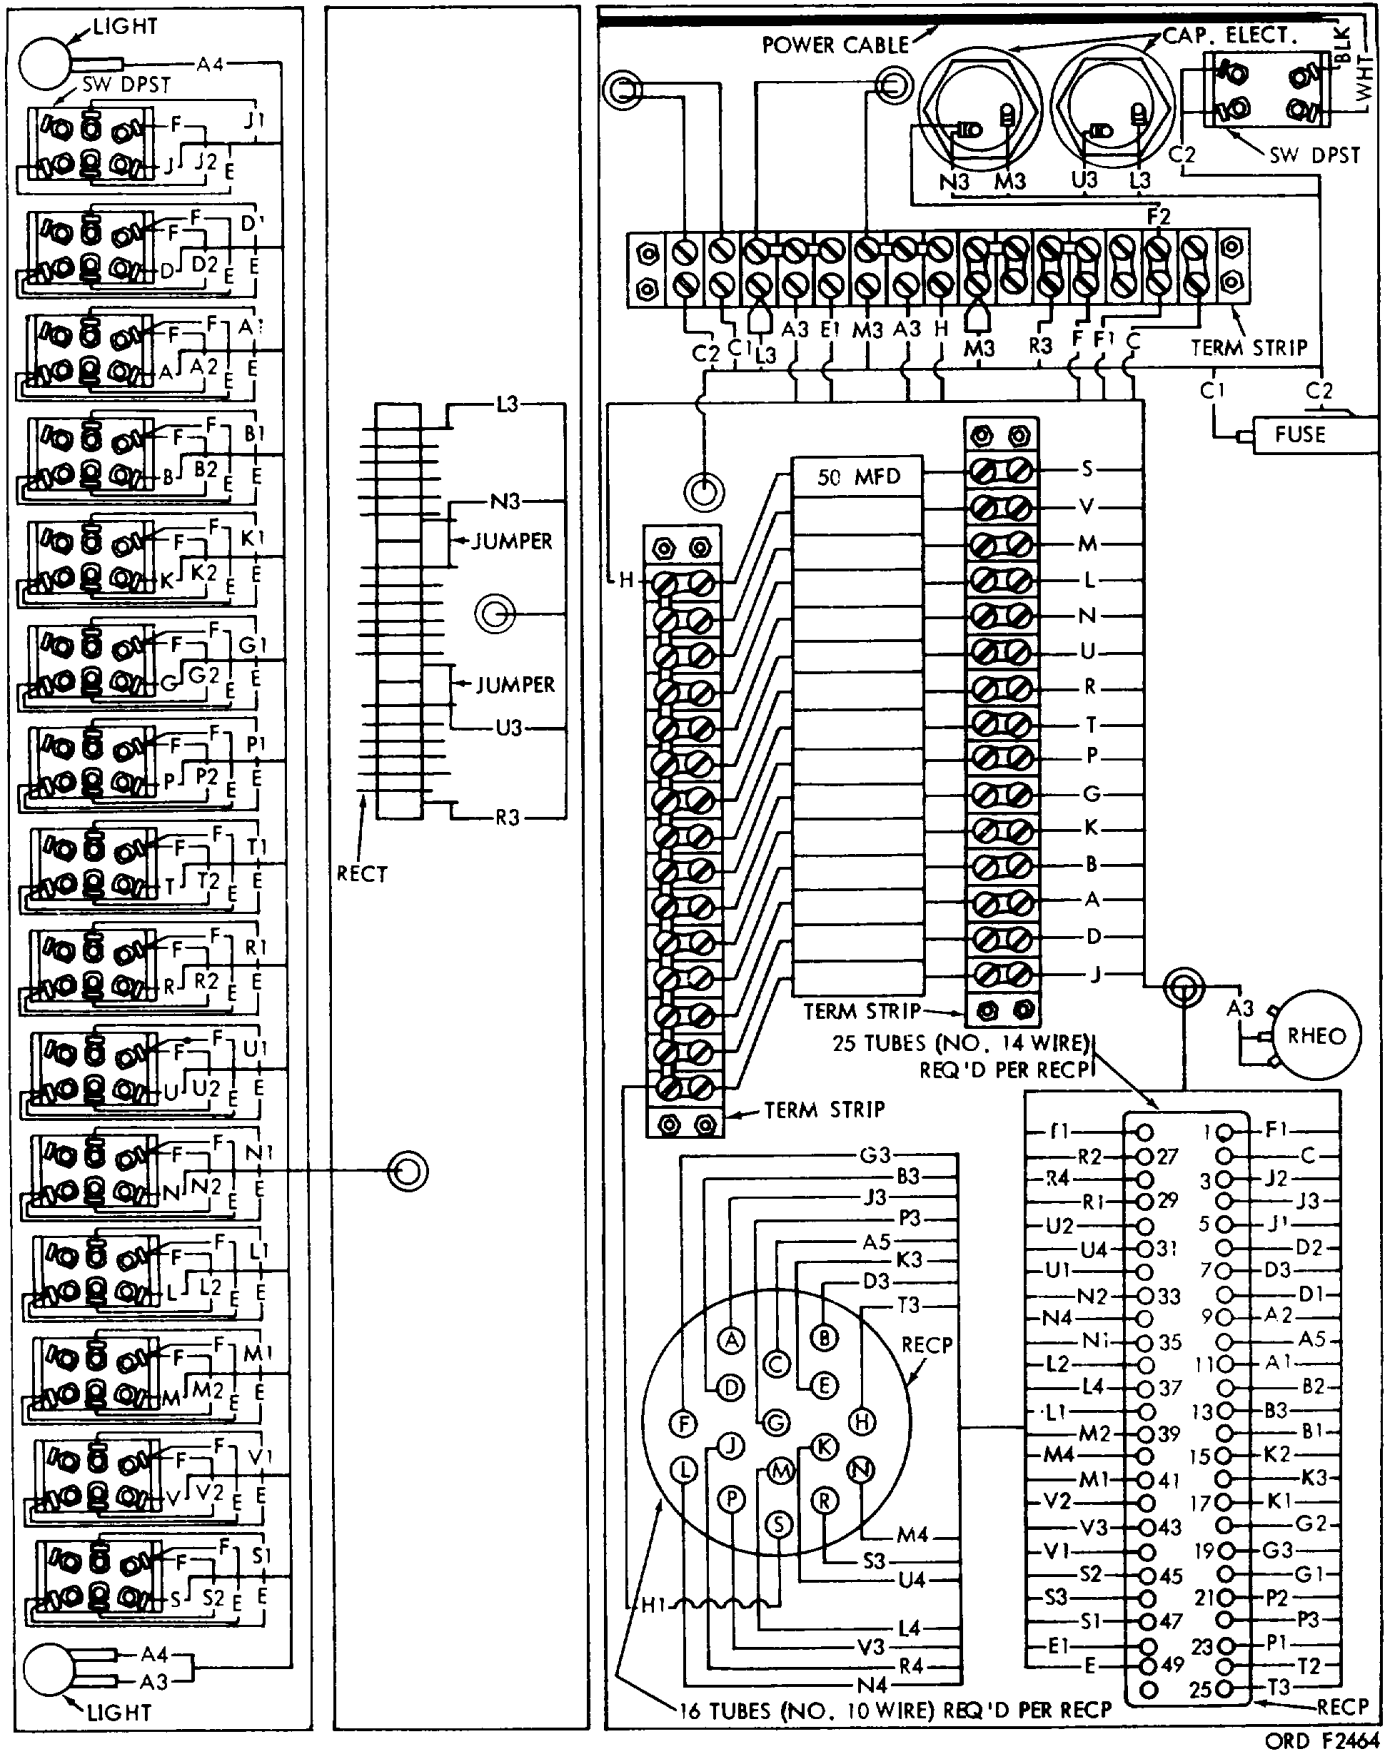

Figure 28 Flasher chassis assembly - wiring diagram
- (5) Inspect the fuse holder to determine if fuse is installed and not blown, also determine that correct type and ampere rating is installed.
- (6) Inspect panel lights for correct lamp.
- (7) Check toggle switches to see if they move easily to all positions.
- (8) Check capacitors to see if they are securely installed. Make sure they are not cracked, charred, blistered, discolored, or swelled.
- (9) Check to determine if transformer is securely installed. Make sure the potting compound is not leaking.
Note. Refer to figures 28 and 29 for necessary wiring diagrams when performing assembly instructions outlined in (9) through (16) below.